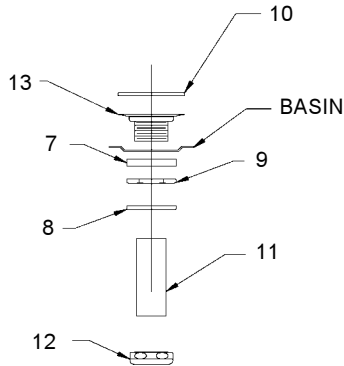

FIG. 12
11. Install tailpiece assembly (as shown in Figure 12). Connect waste trap (not provided).